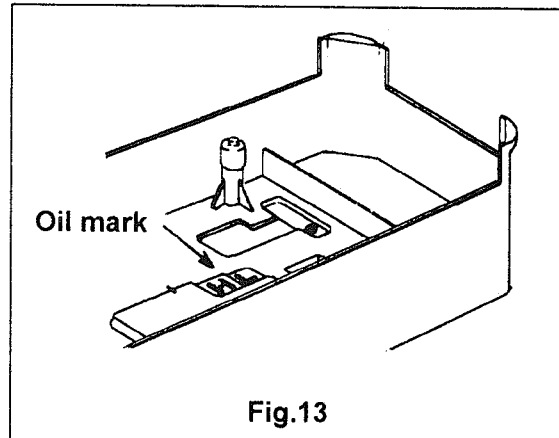
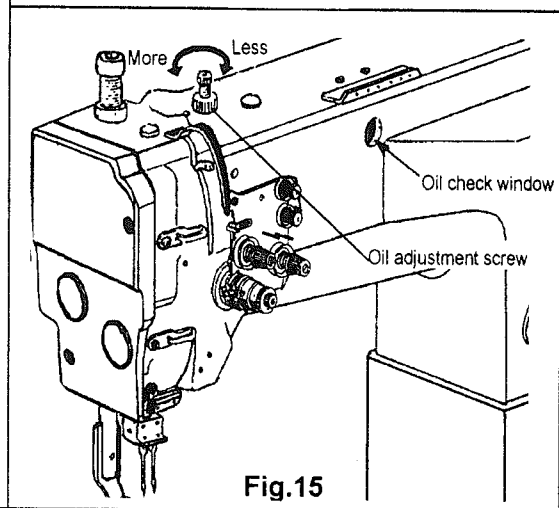

Fig.13
Fig.15
#### 14. Lubrication (Fig.13、 Fig.14、 Fig.15):
1) Before starting operation, be sure to pour oil up to the position H of oil tank. If the oil below position L, replenish the oil supply up to position H. (Fig.13)
3) While operating the machine, check the condition of oil lubrication through the oil check window. The oil amount can be adjusted by oil adjustment screw. (Fig.15)